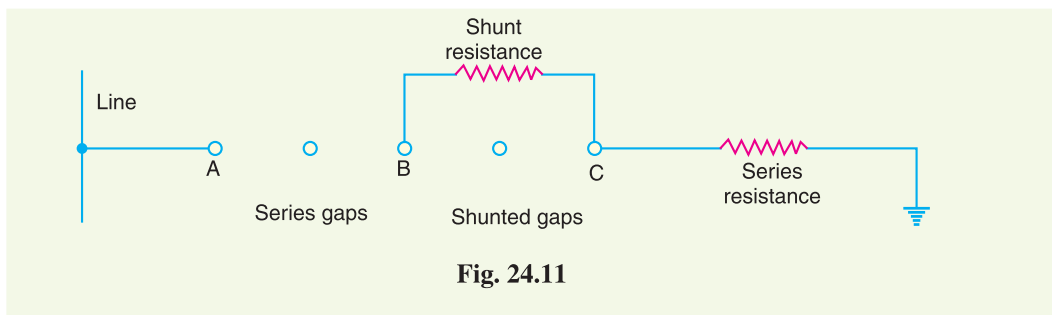

Fig. 24.11
**3. Multigap arrester.** Fig. 24.11 shows the multigap arrester. It consists of a series of metallic (generally alloy of zinc) cylinders insulated from one another and separated by small intervals of air gaps. The first cylinder (*i.e.* A) in the series is connected to the line and the other to the ground through a series resistance. The series resistance limits the power arc. By the inclusion of series resistance, the degree of protection against travelling waves is reduced. In order to overcome this difficulty, some of the gaps ( $B$  to  $C$  in Fig. 24.11) are shunted by a resistance.